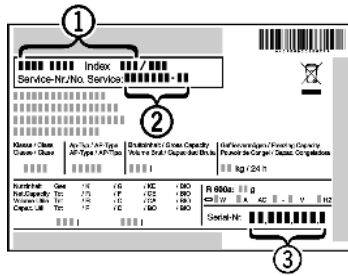

Fig. 7
- ▶ Read the appliance designation *Fig. 7 (1)*, service no. *Fig. 7 (2)* and serial no. *Fig. 7 (3)* from the rating plate. The rating plate is located inside the appliance on the left-hand side.
- ▶ Notify a qualified service provider, specifying the fault, appliance designation *Fig. 7 (1)*, service no. *Fig. 7 (2)* and serial *Fig. 7 (3)* no.